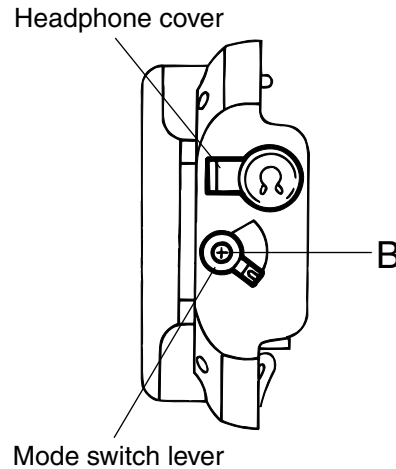

Fig.2
■ Removing the main board ass'y (Figs. 2 to 4)
(Figs. 2 to 4)